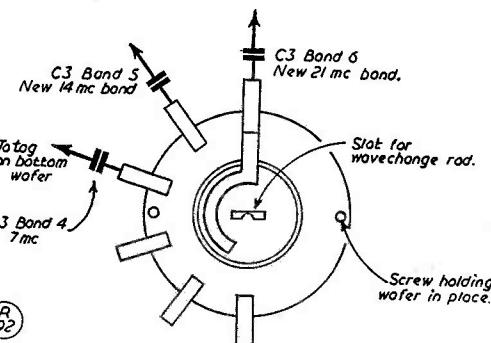

Fig. 1. The wave-change wafer switch connections, tagged to show the modifications required.
Deal with the oscillator section first. On examining this it will be seen that the rotor of the wave-change switch has a separate tag connected to one of the tags on the stator, as shown in Fig. 1. Directly connected to the wafer at this point will be seen a small mica condenser (C3 of Fig. 2) which is connected at the outer end to a tag on the rear wafer. Remove this condenser by clipping it off as close to the tags as possible. Do not use the soldering iron as you may damage some of
The mixer, 1st RF, and 2nd RF stages are similarly modified; each of them have one condenser at similar points (Fig. 1) connected to the top and bottom wafers. These are removed and new mica condensers of 20  $\mu\mu$ F installed in their place. These condensers are the C3 of Fig. 2 and are for limiting the maximum capacity of the main tuning condenser C4. C2 limits the minimum capacity of C4 (Fig. 2).
Having changed the four C1's, remove the oscillator, mixer, and RF condensers C3 (Fig. 1) and replace the oscillator C3 by a small 25  $\mu\mu$ F mica. C3's for mixer, 1st and 2nd RF stages are replaced by 15  $\mu\mu$ F micas. Next follow the wiring from each of the new trimmers C1 to the inductances across the C1's. Remove one turn from each of the four inductances by unsoldering at the bottom of the coil formers and gently pushing the wire in the reverse winding direction. Care should be taken as there is a danger of breaking the small wire which runs from top to bottom of each coil at the rear. It is not necessary, or recommended, to alter the original spacing; just clean the end of the coil wire and re-solder, then snip off the removed length of wire. The job is then completed and it is only necessary to put back the coil packs, re-solder the loose ends, and switch on. Connect the signal generator as detailed for the 14 mc modifications and set the dial to 17.1 mc. Adjust the oscillator trimmer till a 21.45 mc note from the signal generator is heard on the receiver, touch up the RF and mixer trimmers—and then wait till the band opens ! Despite bad conditions, the first signal heard by the writer on connecting the aerial was a KZ5 at S7.
**Oscillator Stage :** Remove C2, the small fixed condenser across the trimmer C1, and replace by a 240  $\mu\mu$ F mica. Remove C3 (see Fig. 1) and replace by a 40  $\mu\mu$ F mica. This puts the oscillator at 915 kc lower than the RF signal. It was on the HF side originally, but as the writer had got it by trial-and-error before he started with pencil and paper he left it as it was ! The calculated values, which were not tried on the oscillator only (Band 4), were C1 50  $\mu\mu$ F; C2 124  $\mu\mu$ F; and C3 40  $\mu\mu$ F. So those who want to try the oscillator on the HF side only require to put in a 124  $\mu\mu$ F mica instead of 240  $\mu\mu$ F for C2.